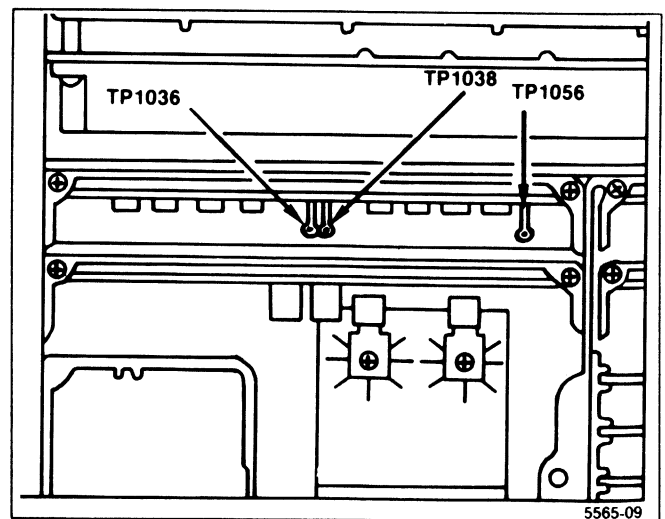

Figure 5-5. Test points on the CRT Readout board.
i. Disconnect the voltmeter, set TIME/DIV to AUTO, change the test oscilloscope to Ext Trigger, and apply the signal at TP1038 on the Crt Readout board (Figure 5-5) to the test oscilloscope Ext Trigger input. Set the test oscilloscope Time/Div to 2  $\mu\text{s}$ .